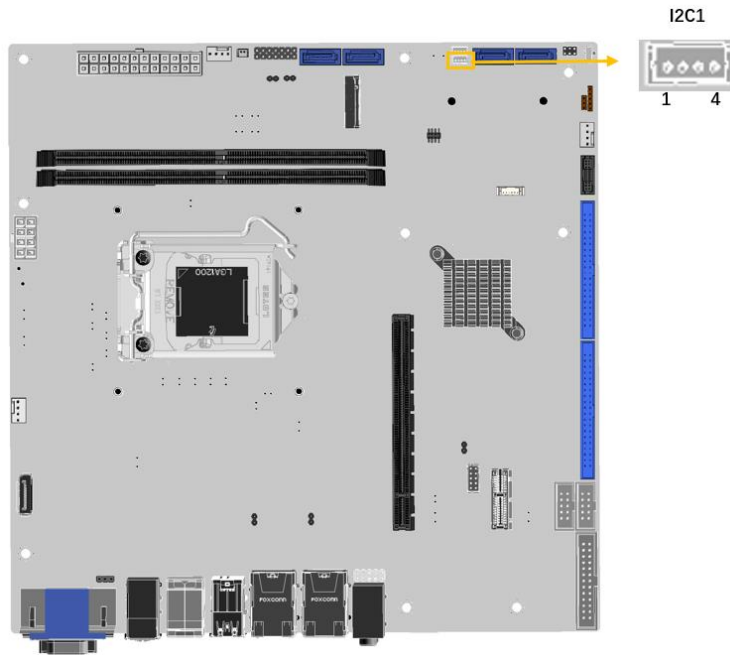

Figure 3-21: I²C Connector Location
- CN Location:** See **Figure 3-21**